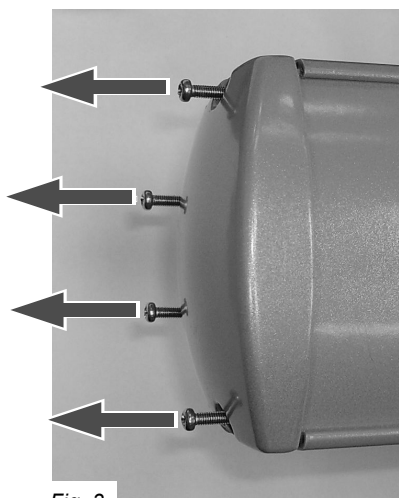

Fig. 3
5. Unscrew the four screws (see Fig. 3) from the end cap to the side of the emitter to be replaced and remove the end cap.